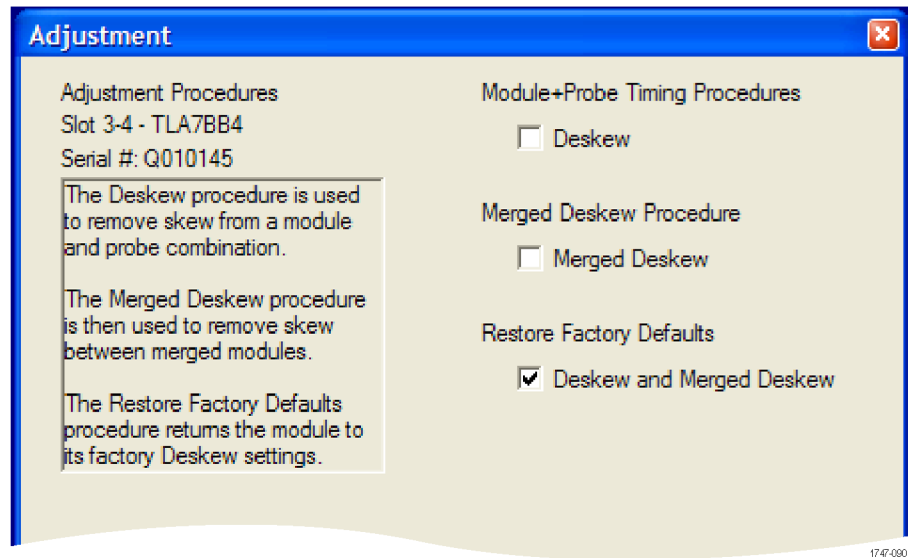

Figure 62: Adjustment procedure dialog box with Deskew and Merged Deskew selected
1. In the Adjustment procedure dialog box, select Deskew and Merged Deskew. (See Figure 62.)